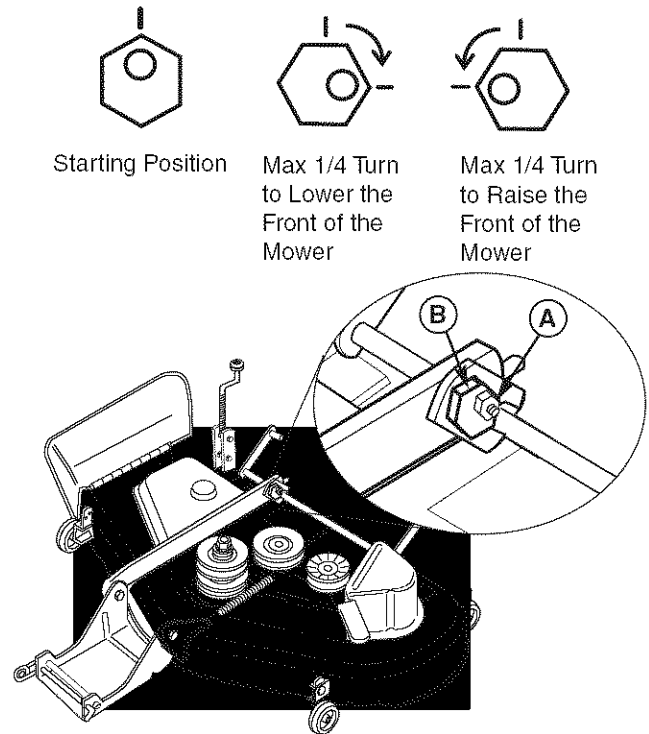

Figure 40. Front-to-Back Leveling
2. To raise or lower the front of mower deck, loosen lock nut (A, Figure 40 inset) and turn eccentric nut (B).
3. Recheck measurement before tightening lock nut (A) against bracket.